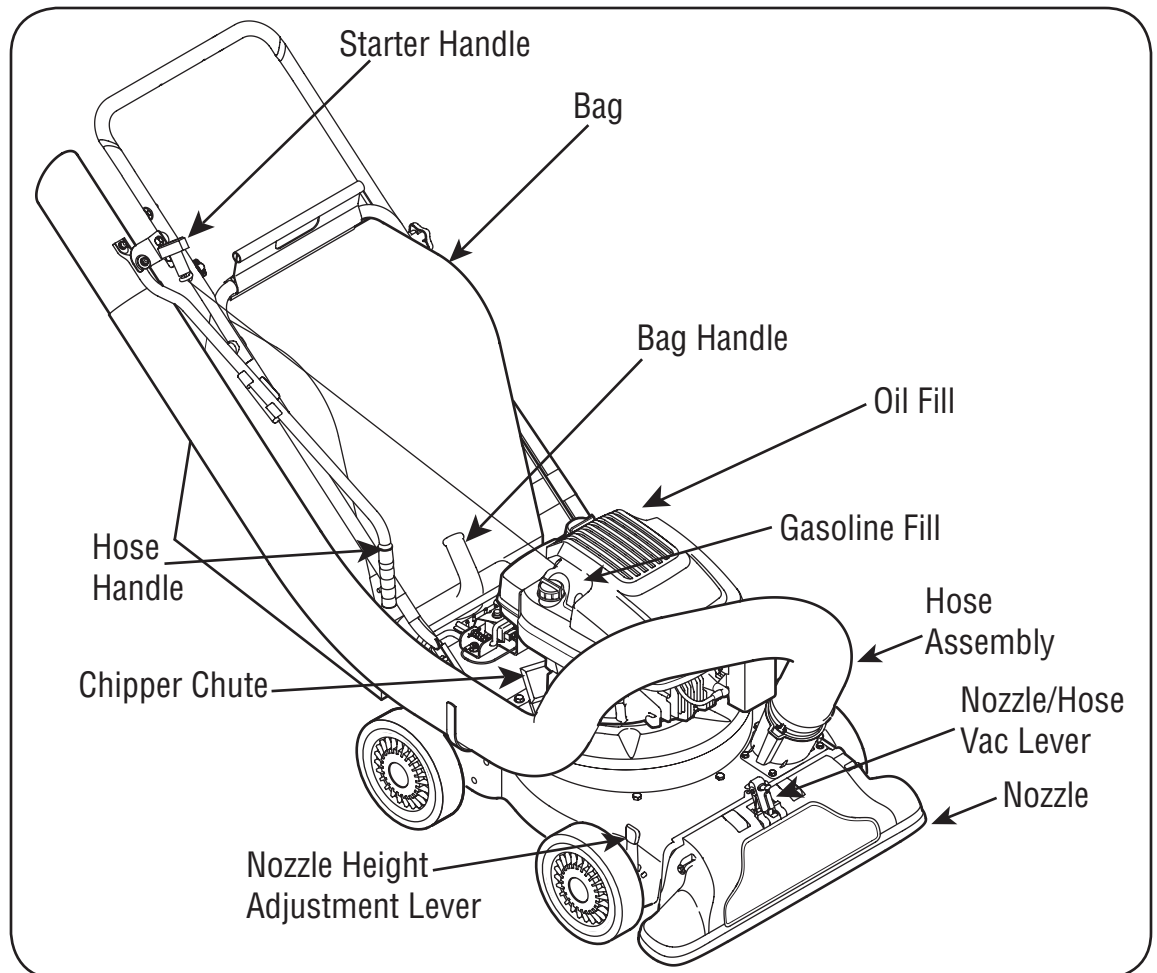

Figure 4-1
4. **Nozzle/Hose Vac Lever:** Lubricate the nozzle/hose vac lever on top of nozzle once a season with light oil. Refer to Figure 4-1.